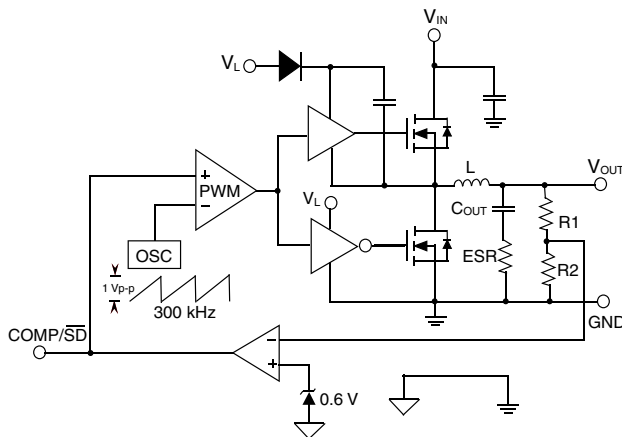
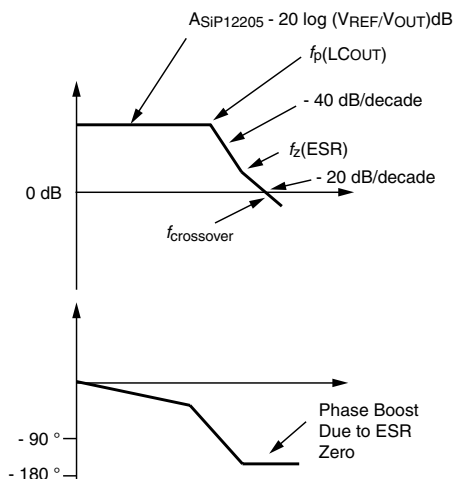

Figure 8a.
Figure 8b.
- Combine the SiP12205 controller with open loop of the LC filter + output voltage sampling divider. The open loop gain shift up due to the active device of SiP12205. The close loop system and its related Bode Plot are illustrated in Figure 8a and Figure 8b.